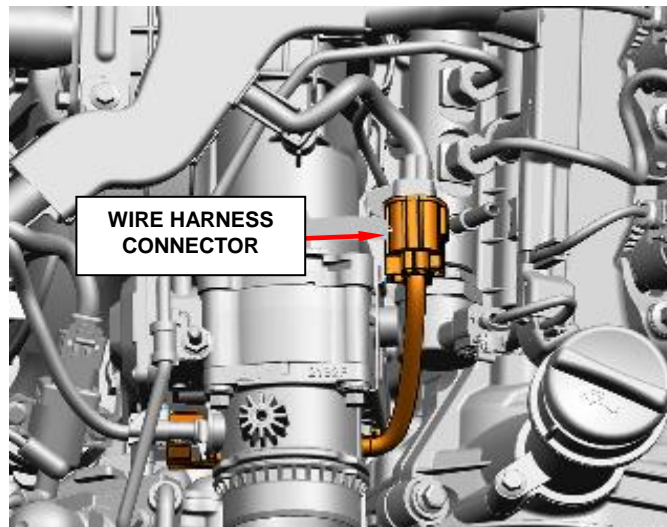

Figure 24 – EGR Connector
34. Disconnect the wire harness connector next to EGR air flow control valve (Figure 24).
15. Connect the wire harness connector next to EGR air flow control valve (Figure 24).